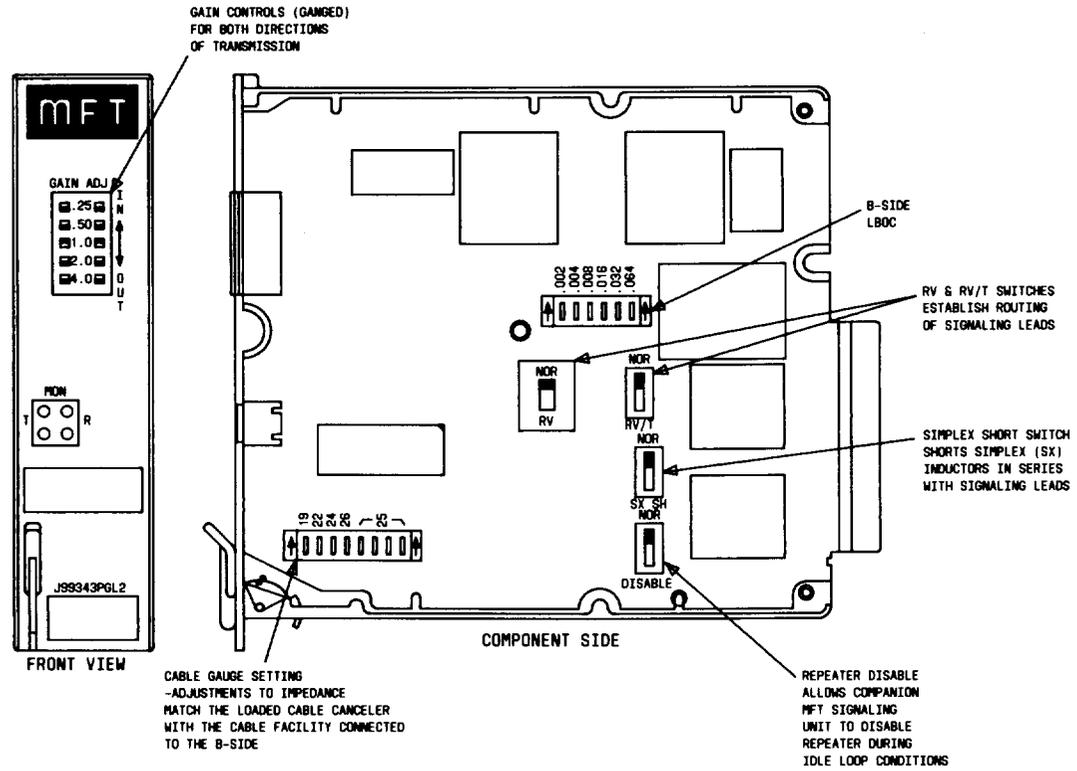
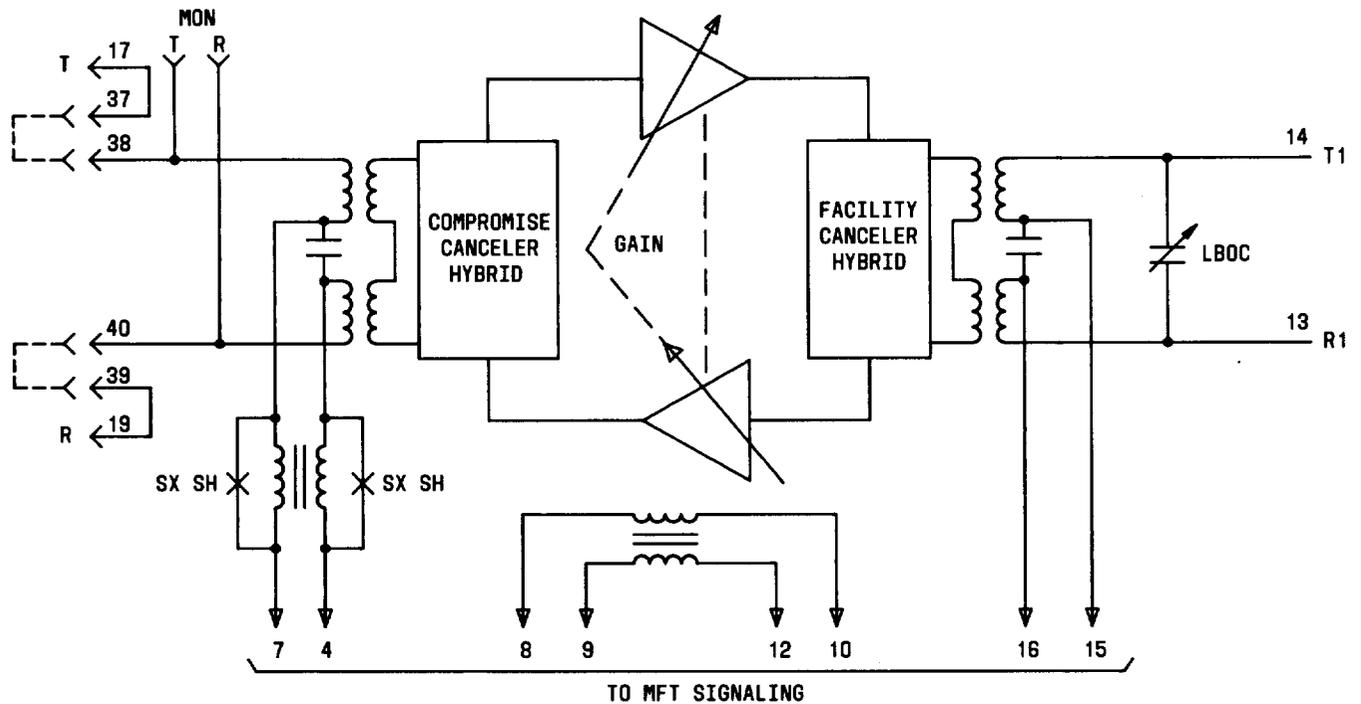

Fig. 7—J99343PG, L2 Component Layout
Fig. 8—J99343PG, L2 Block Diagram
3.01 The J99343PG, L2, is shown in Fig. 7. It provides gain and equalization on 2-wire circuits between terminal equipment and loaded facilities. Figure 8 shows a block diagram for this unit.
3.07 In the following paragraphs, the rocker-type switches for a particular function are operated when depressed toward the respective designation. The sum of the values of the switches operated is the setting for that function. The unit controls are illustrated in Fig. 7.